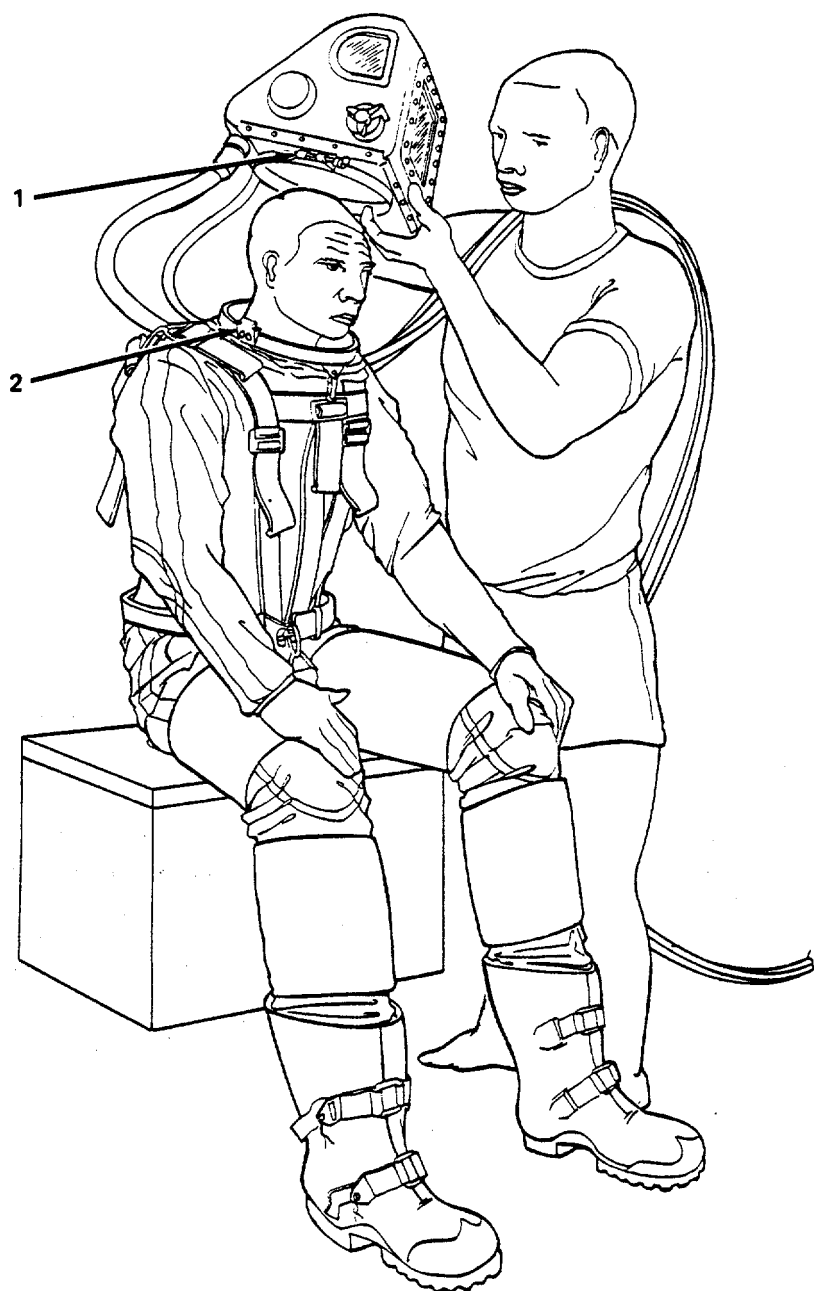
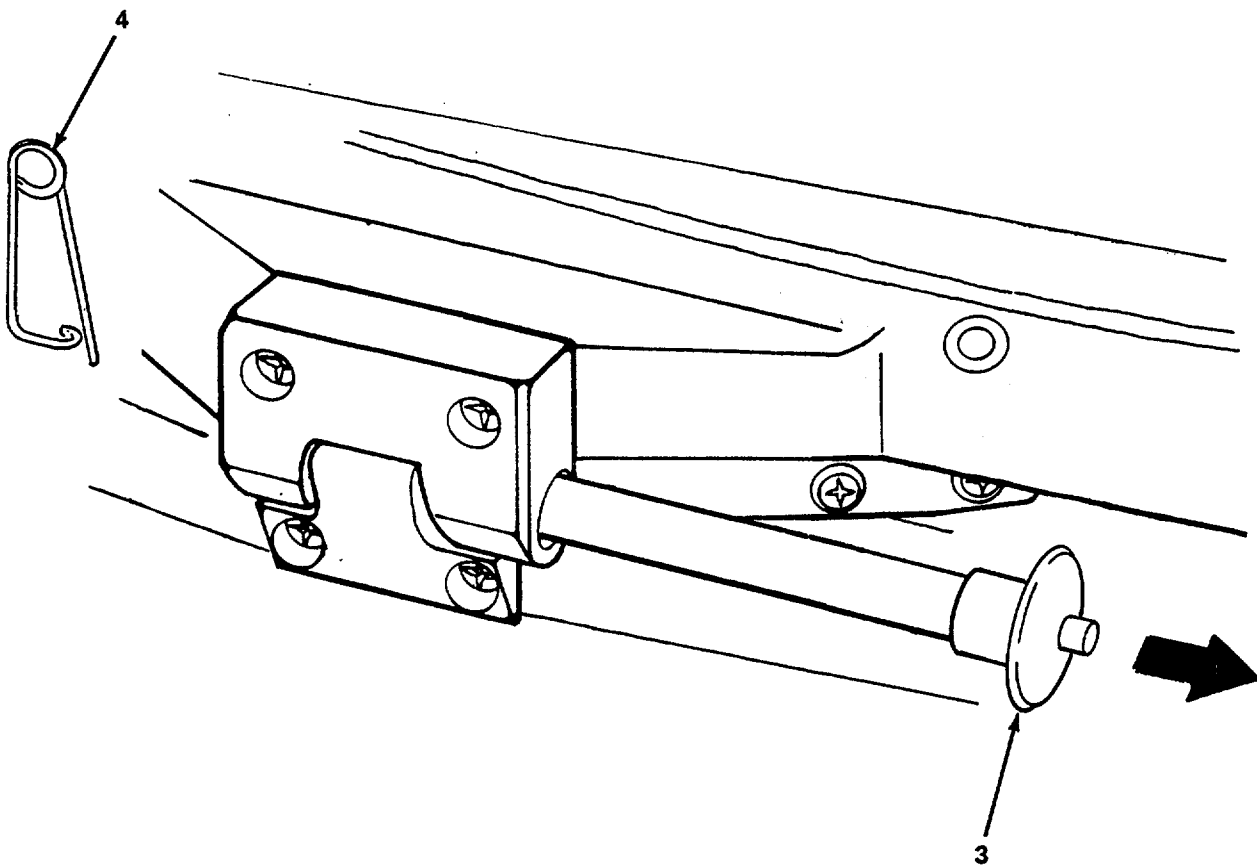

Figure 2-7. Helmet Placement.
Figure 2-8. Helmet Locking Pin.
8. DON THE HELMET	<p style="text-align: center;">WARNING</p> <p>Ensure air is available to the helmet, and the air supply valve is opened slightly before placing the helmet on the diver. Exhaust valve shall be fully open.</p> <ol style="list-style-type: none"> Seat the diver and lower the helmet into place taking care not to strike the diver's head, figure 2-7 Align the helmet (1) and lower breech ring lugs (2) and press the helmet firmly into place. Slide quick release pins (3) into place, figure 2-8 and secure with safety pins (4). Lead the umbilical and whips under the left arm to the V-ring at the waist. Secure with the spinnaker-type snap shackle, ensuring it is properly locked. Ensure quick release cord is attached and in good condition.